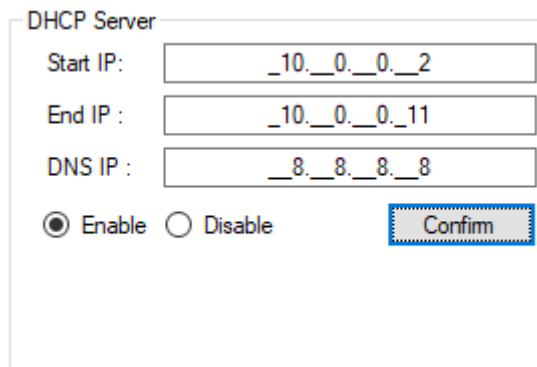

Figure 22: DHCP Configuration
- In the **DHCP Server** area, make the required settings for the IP addresses and click the **Confirm** button. See Figure 22.